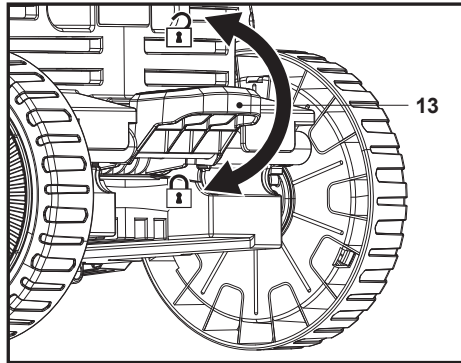

Fig. 18
Press the lock button (13) to lock the two rear wheels (8) and lift the lock button (13) to unlock the two rear wheels (8) (Fig. 18).